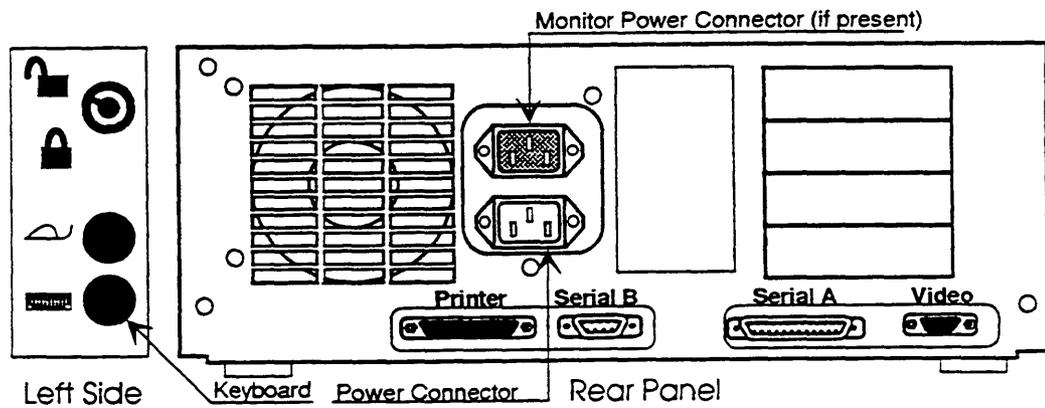
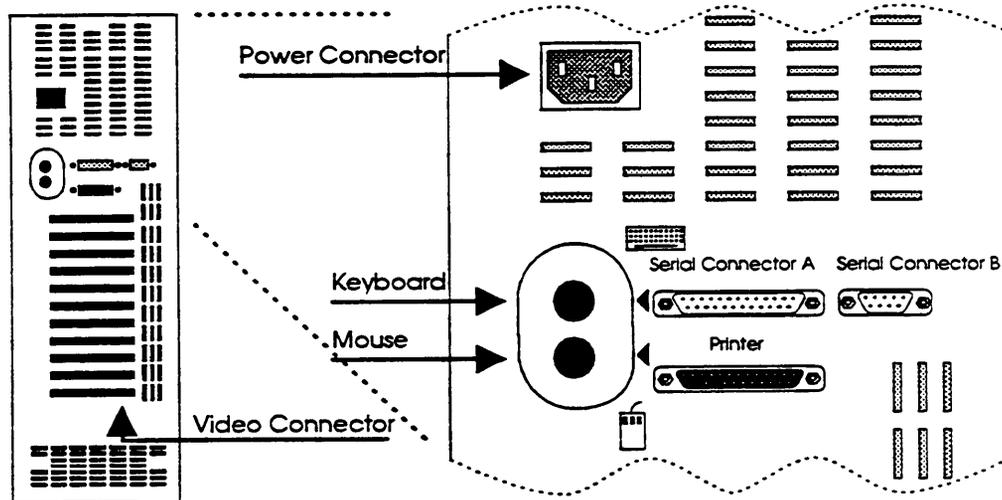

Figure 2-2. Master Controller II+ Connector Locations
Figure 2-3. Master Controller III Connector Locations
Refer to these figures as you connect the components together. The connectors the Master Controller II+ are on the rear and left side. The connectors are shown in Figure 2-2:
The connectors for the Master Controller III are on the rear. The connectors are shown in Figure 2-3:
1. Connect the video display cable to the connector on the system unit with the same size shell and the same number of pins. The connector is a DD-15 with three rows totaling 15 pins. The other, similarly sized connector on the system unit has two rows totaling 9 pins. Connector locations are shown in Figure 2-2 and Figure 2-3.
- The socket for the keyboard connector is located on the left side of the Master Controller II+ at the bottom. Refer to Figure 2-2.
- The socket for the keyboard connector is located on the rear of the Master Controller III It is the upper of two similar connectors. Refer to Figure 2-3.
2. Plug the other end of the cable into the parallel port socket on the Master Controller. Refer to Figure 2-2 and Figure 2-3.